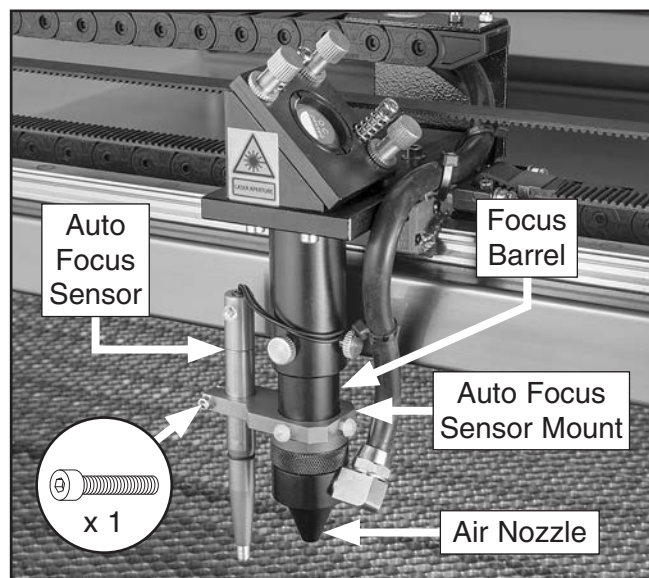

Figure 45. Auto focus sensor components.
6. Loosen (1) cap screw on auto focus sensor mount, raise auto focus sensor even with tip of air nozzle, then tighten cap screw (see **Figure 45**).
9. Loosen (1) cap screw on auto focus sensor mount, lower auto focus sensor flush with workpiece, then tighten cap screw (see **Figure 45**).